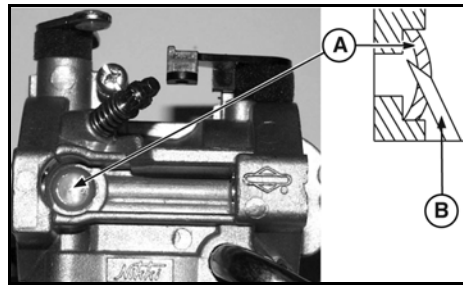

Figure 62
12. Remove the welch plug (A, Figure 62) from the carburetor with a modified pin punch. Discard the welch plug.